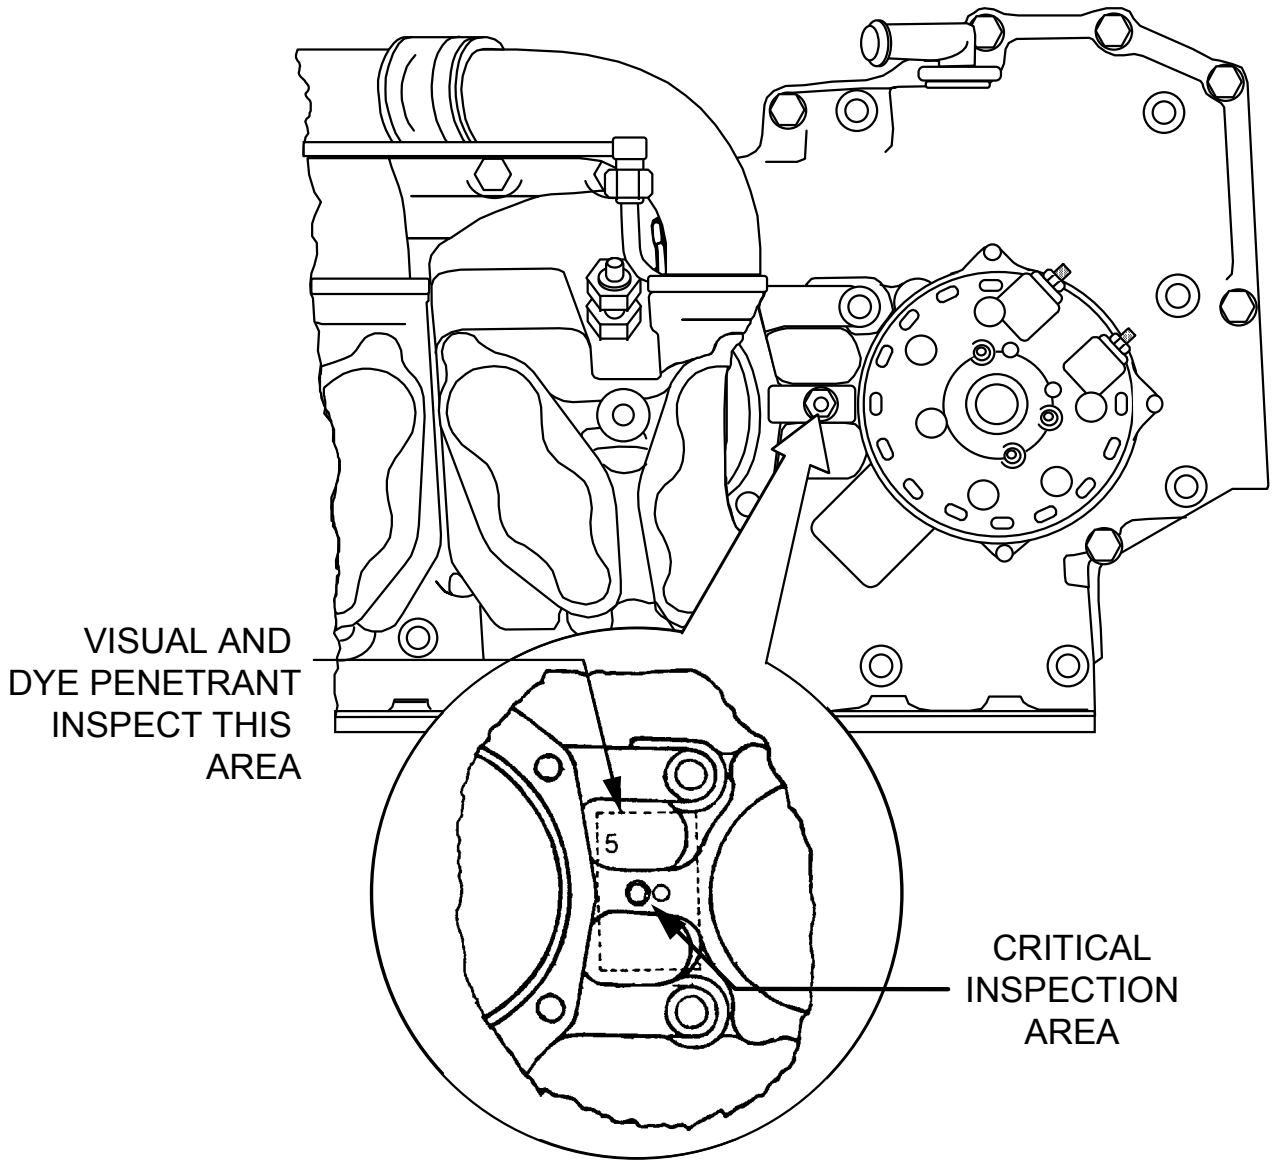

Figure 1
Within the next 25 operating hours after the effective date of this bulletin and every 50 hours for the next 500 hours of operation perform a visual and dye penetrant inspection of the engine crankcase at the number 5 cylinder 7th stud location. Refer to Figure 1 for area to be inspected.
1. Clean the area around and adjacent to the number 5 cylinder 7th stud and alternator (Refer to Figure 1) with an approved cleaner.
2. Perform a visual and dye penetrant inspection of the area, with specific attention to the area between the number 5 cylinder 7th stud and the aft (9 o'clock) alternator mount stud (Refer to Figure 1).